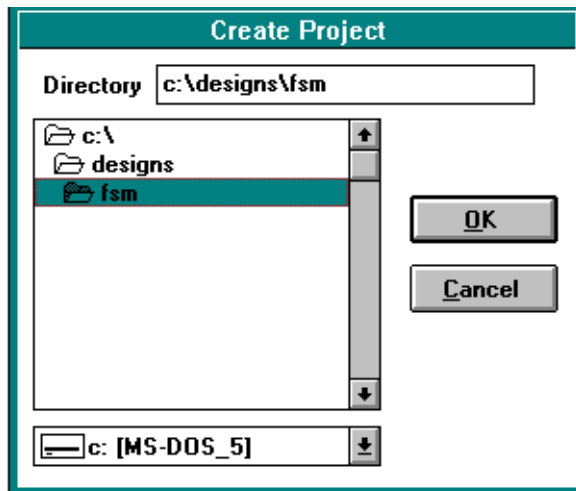

Figure 2-7 Create Project Dialog Box
- Click on the **Project Manager** button. The dialog box shown in Figure 2-7 appears: